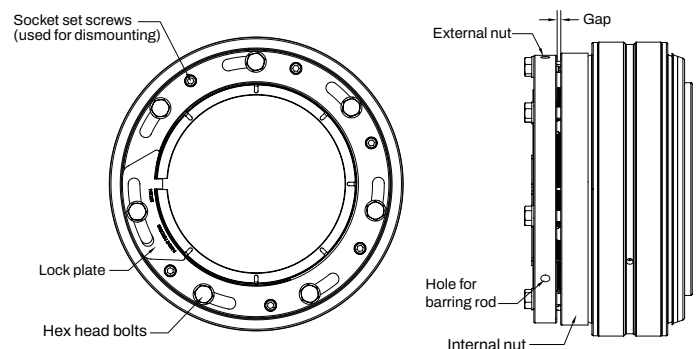
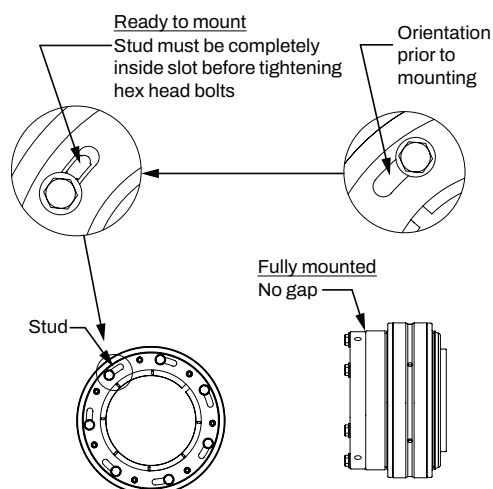
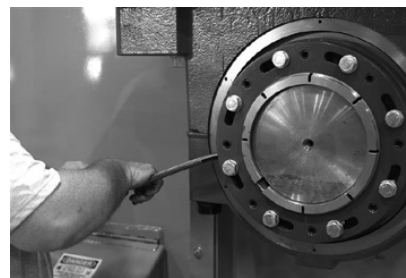
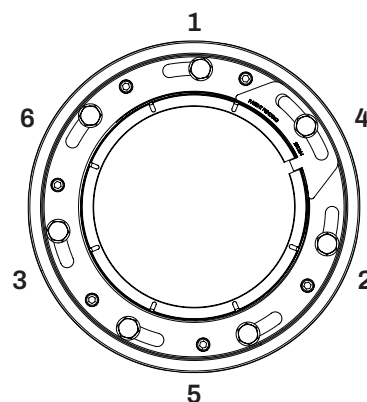

Figure 1 - Bearing with split nut as shipped with gap
Figure 3 - Nut rotated and ready for installation
Figure 4 - Rotating the lock nut assembly using the supplied barring rod
Figure 5 - Correct installation star pattern
The lock nut assembly is comprised of an external nut and internal nut. The bearing is shipped such that there is a gap between the two nuts. The two nuts must maintain this gap prior to mounting the bearing. The split nut configuration prior to installation is shown in Figure 1. Note the position of the external nut slots relative to the hex cap bolts.
6. Loosen but do not remove the hex head bolts. Using a barring rod to hold the external lock nut, grasp one of the hex mounting bolts and shift it counterclockwise until shouldered against the side of the slot as shown in Figure 3. See Figure 4 demonstrating this step. **If the external nut moves during this step, it is imperative to reposition the nut assembly so that the external nut is positioned with the alignment mark made in step 4 before proceeding to the next step. Make sure the spacing stud is visible in the slot as shown in Figure 3 or the nut will not install correctly.**
7. At this point the machined studs used to create the gap have been positioned inside the elongated slots, and the two nuts can be pulled together, which installs the bearing on the shaft. **If the external nut moves during this step, it is imperative to reposition the nut assembly so that the external nut is positioned with the alignment mark made in step 4 before proceeding to the next step.** Gradually tighten the hex head bolts in a star pattern, as shown in Figure 5, until the external nut firmly seats against the internal nut and the gap is completely closed as shown in Figure 3 (not yet full torque).
8. Remove the hex head bolt nearest to the slot in the adapter. A slight gap may appear between the two nuts when the hex head bolt is removed. This is a normal occurrence and the gap will close up when the hex head bolt is reinstalled. Install the lock plate so that the tab fits into the adapter slot. If the lock plate does not line up with the two holes, it can be flipped over to fit as shown in Figure 1. Reinstall the hex head bolt to secure the lock plate. **Using a star pattern, as shown in Figure 5, torque the hex head bolts to the values shown in Table 1.** It is considered a best practice to initially tighten the hex head bolts to 50 percent of full torque, then tighten again to 100 percent full torque (using the star pattern both times).